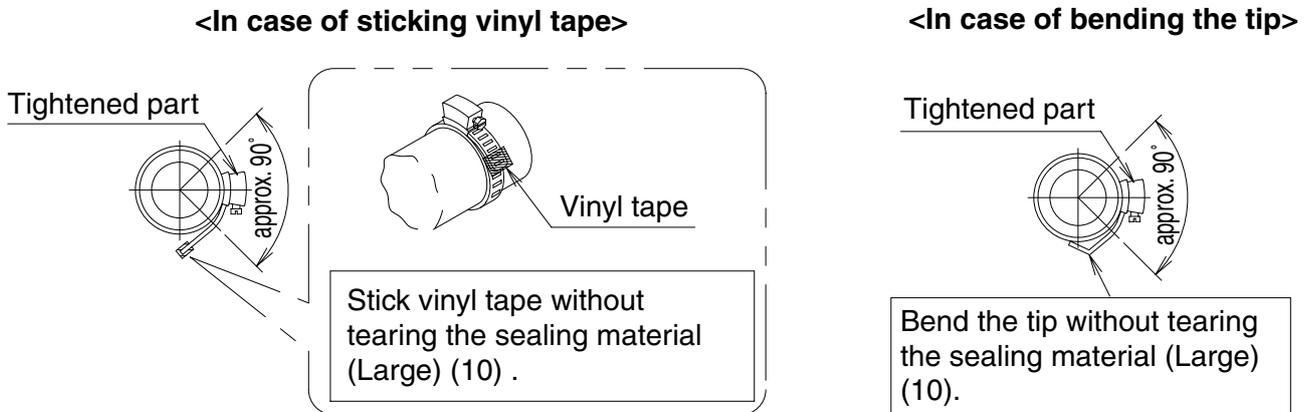

Fig. 12
- Do not tighten the metal clamp (2) with the torque more than the specified value. The drain hose (1), the socket or the metal clamp (2) may be damaged.
- Wrap the vinyl tape around the end of the metal clamp (2) so that the sealing material (Large) (10) to be used at the next process may not be damaged with the clamp end or bend the tip of the metal clamp (2) inward as shown. (Refer to Fig. 12)